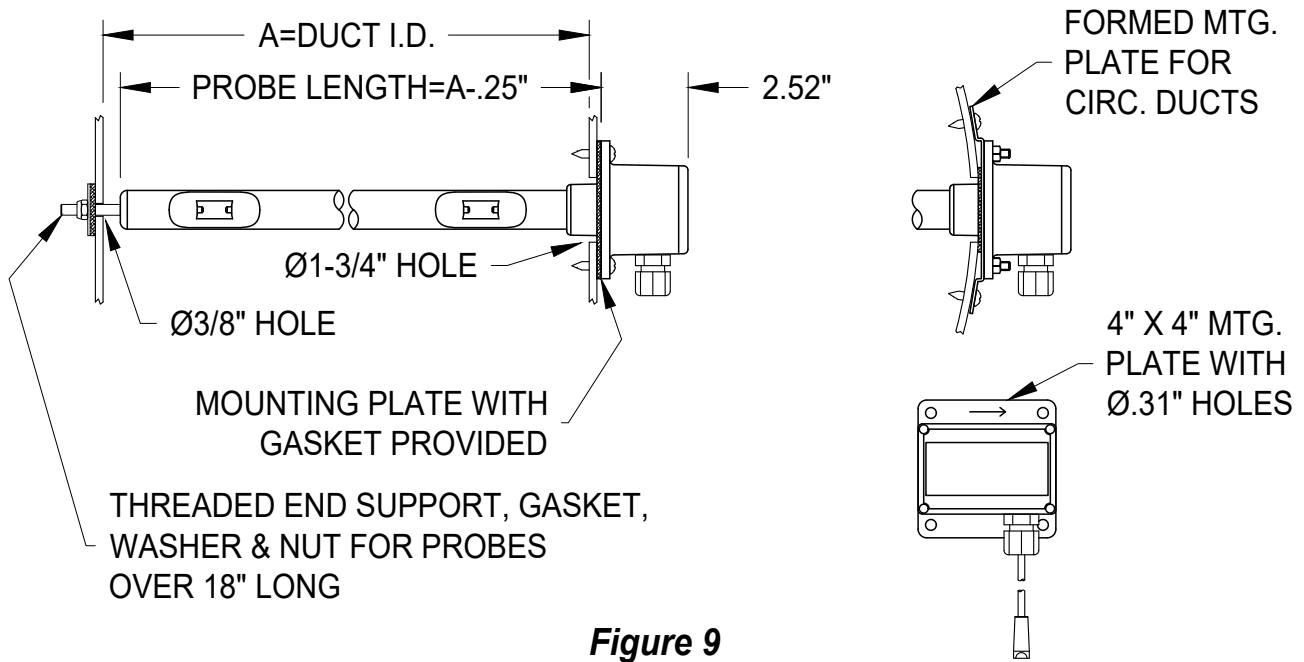

Figure 9
- Mounting requires a 1-3/4" hole on one side of the duct, and a 3/8" hole on the opposite side for the threaded end support (for probe lengths longer than 18"). See Figure 9 for mounting details.